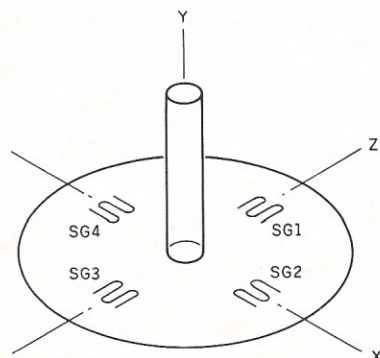
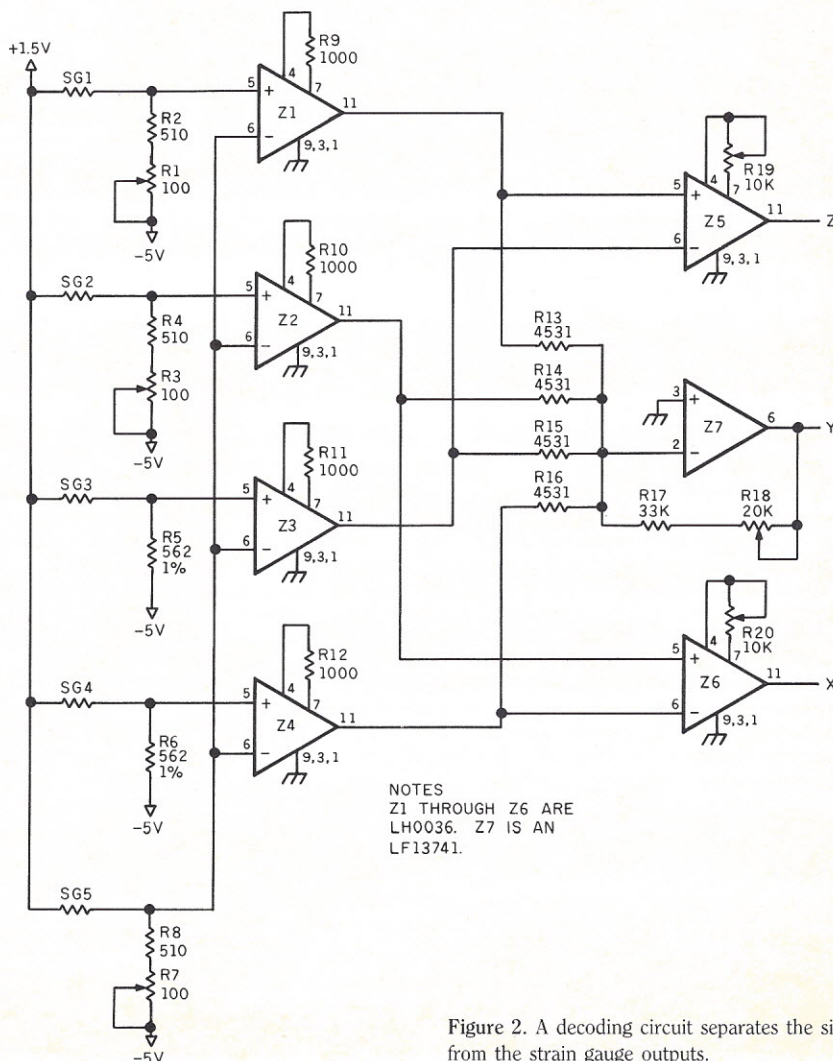

Figure 1. Four strain gauges are attached at points equidistant around the disk's surface and a handle is attached to the center.
Figure 2. A decoding circuit separates the signals from the strain gauge outputs.
The joystick's sensor is a disk with four strain gauges (SG) attached at points equidistant around the disk's surface (Figure 1). A handle is attached to the center. The strain gauge outputs are not orthogonal, so a decoding circuit is needed to separate the signals (Figure 2). A force in the Y axis produces equal outputs from all four gauges. A force in the X axis produces equal and opposite outputs from SG2 and SG4. A force in the Z axis produces equal and opposite outputs from SG1 and SG3.
In Figure 2, instrumentation amplifiers Z1 through Z4 amplify the strain gauge outputs using SG5 as a reference. Operational amplifier Z7 separates the Y axis by
We used the Apple II+ as the control computer. An interface card is required to control the two drive motors. The robot is configured as a three-wheeled base: one wheel is a caster and the other two are independently driven. The Apple interface is shown in Figure 1. Three annunciator (TTL) outputs are used from the game port and then buffered by a 74LS241. The buffer outputs are then optically isolated from the motor drive circuit by using an IL1 or equivalent optoisolator. Inputs "LEFT" and